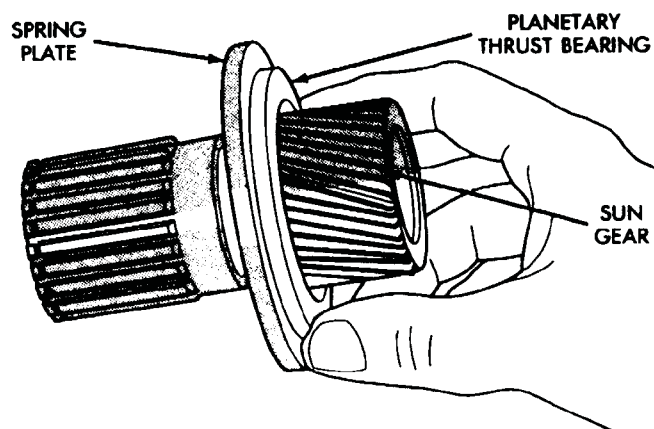

Fig. 53 Planetary Thrust Bearing Installation
(14) Coat planetary thrust bearing and bearing contact surface of spring plate with petroleum jelly. This will help hold bearing in place during installation.
(15) Install planetary thrust bearing on sun gear (Fig. 53). Slide bearing onto gear and seat it against spring plate as shown. **Bearing fits one way only. If it does not seat squarely against spring plate, remove and reposition bearing.**